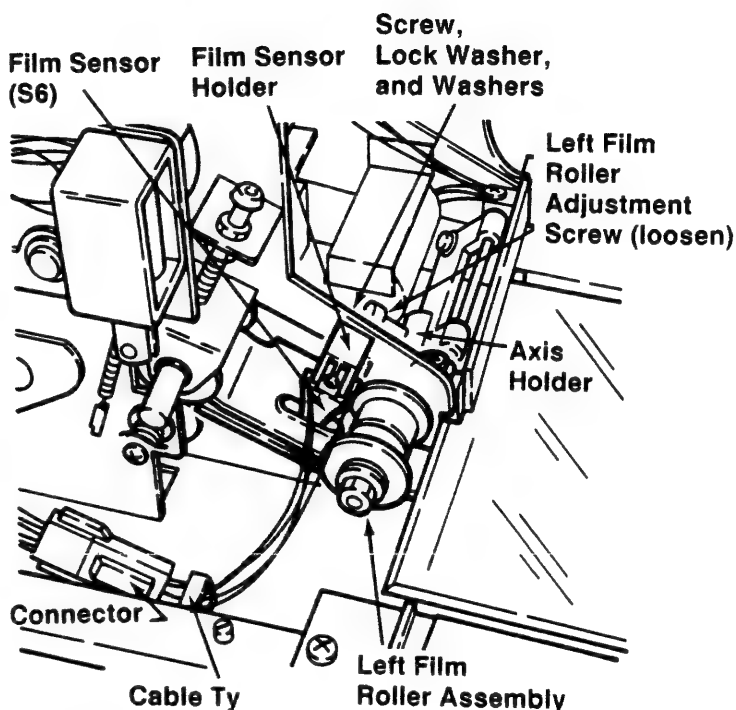

Figure 2-3.2A
3. Loosen the Adjustment Screw for the Left Film Roller (Figure 2-3.2A).
4. Pull the Left Film Roller Assembly straight out from the Axis Holder (Figure 2-3.2A) and discard the assembly.
5. Cut the Cable Ty holding the Wiring Harness for the Film Sensor (Figure 2-3.2A).
6. Unplug the Connector for the Film Sensor Wiring Harness (Figure 2-3.2A).
7. Remove and discard the Screw, Lockwasher, Washer, Film Sensor Holder and Film Sensor (Figure 2-3.2A).